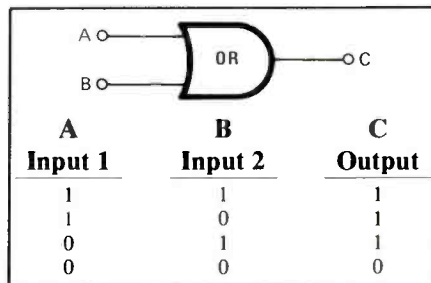
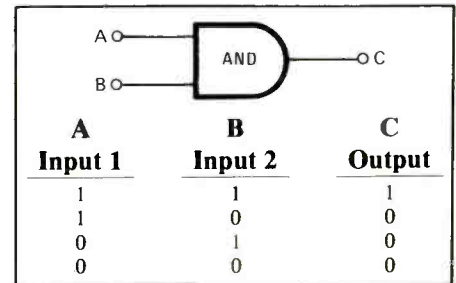

Fig. 4. The schematic/logic symbol and truth table for the OR gate.
Fig. 5. The schematic/logic symbol and truth table for the AND gate.
The next logic function we'll examine is the OR function, whose symbol is shown in Fig. 4, along with its truth table. An OR device must have two or more inputs and one output. When examining the symbol for the OR device (also known as the OR "gate"), note that there is no small circle at its output, indicating that no signal inversion takes place.
The rules of operation for the OR gate state that an output signal will occur if there is an input signal on any one or more input lines. Thus, examining the truth table for this device, if input A is 1 or input B is 1 or both inputs A and B are 1, the output (C) will also be 1. The only time there will be no output signal is when both input A and input B have no signal applied to them. (In Fig. 4 only two inputs are shown to the OR gate. Actually an OR gate can have any number of inputs, though there is a practical limit to the number you'll find in available IC gate packages. Additional inputs would be added to the truth table as columns between input 2 and output. The same rules apply in any case. More than two inputs can be given to any of the logic elements discussed here *except* for the inverter and the buffer elements.
shown in Fig. 5. Like the OR gate, the AND gate must have two or more inputs and one output. The rules for operation of the AND gate state that an output signal will occur only if there are signals on *all* input lines simultaneously. If any one or more input lines doesn't have a signal on it, there will be *no* output.
tables for each of these gates how the outputs differ from those in the truth tables in Fig. 4 and Fig. 5 with the same output conditions.